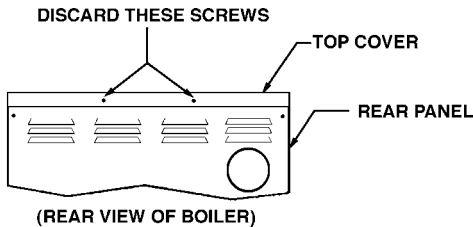

FIGURE 1.
NOTE: Remove the two (2) sheet metal screws from the rear of the top cover and discard them, see fig 1. This will allow removal of the top cover without the use of tools. Also, remove the sheet metal screw from the bottom of the front panel.